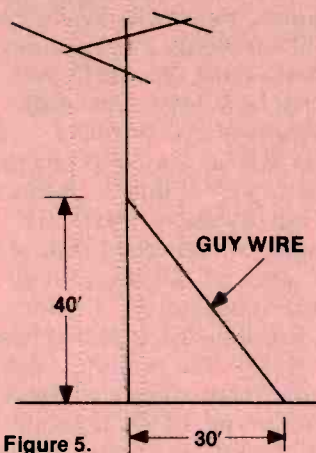

Figure 5.
10. You are going to secure an antenna with guy wire. One of the guy wires will be attached to a point on the pole 40 feet above the base; and a point 30 feet out from the base. (See Figure 5.) Disregarding extra length for tying, what length should the guy wire be cut?